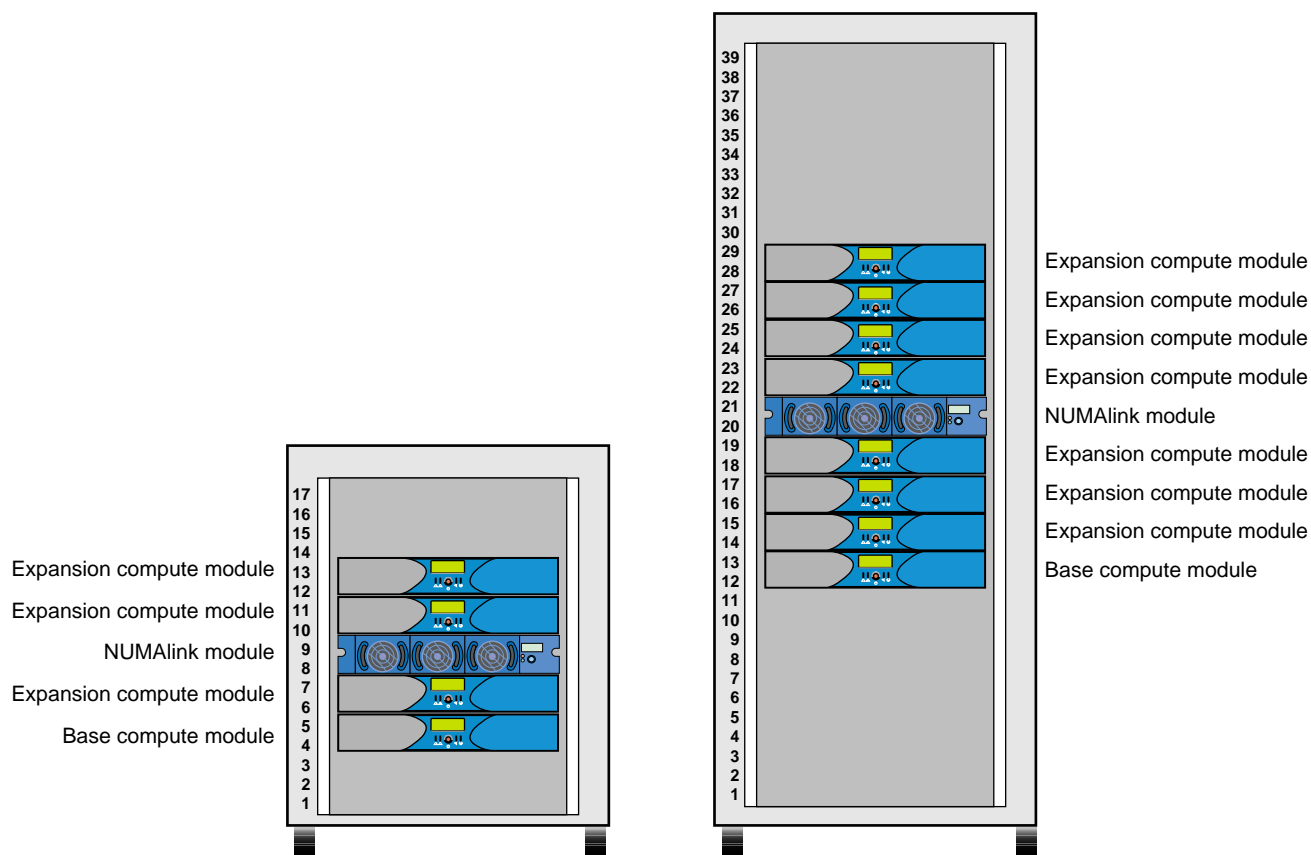

Figure 2-24 Unit Numbering within Rack
The Origin 350 server system supports two rack types: a short rack and a tall rack. The racks are measured in standard units (U); one U is equal to 1.75 in. (4.45 cm). The short rack is a 17U rack and the tall rack is a 39U rack (see Figure 2-24).
The components within the rack are identified by the lowest U number that they occupy. For example, the NUMAlink modules shown in Figure 2-24 are identified as U8 in the short rack and U20 in the tall rack.